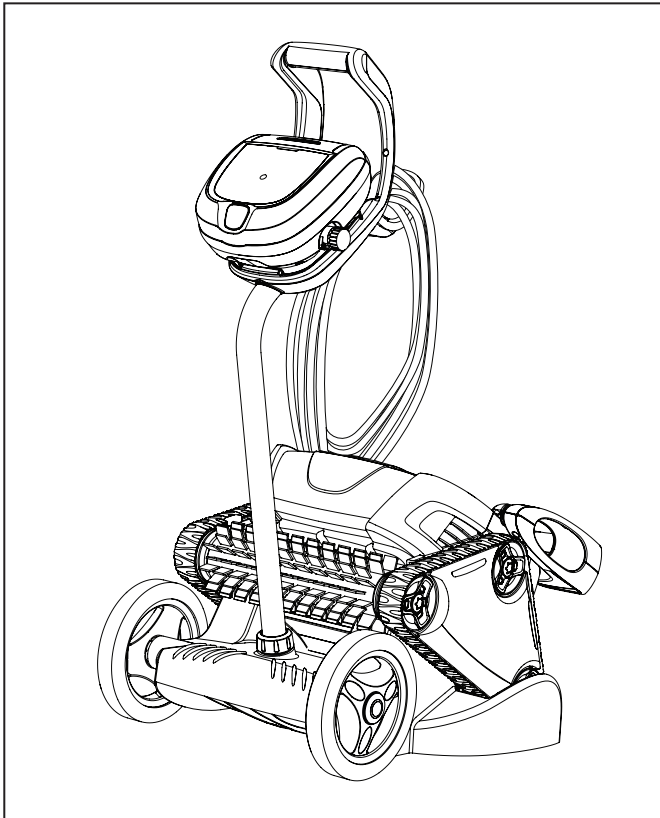

Figure 21. Cleaner Stored Correctly on Caddy
2. Place the cleaner in vertical position on the caddy base with the rear tracks on the caddy side wedges (see Figure 21).
3. Loosely coil the power cable starting at the cleaner and moving toward the connection point at control unit. Store the cable by wrapping it around the hook located on the front of the caddy (see Figure 21).